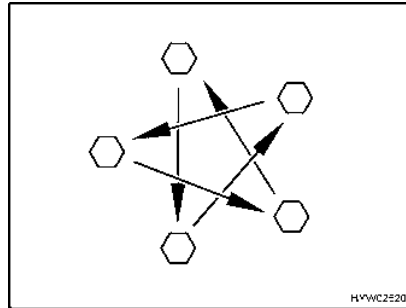

Fig. 102 Tighten the wheel nuts or wheel bolts cross-wise
- Check regularly that the wheel nuts or wheel bolts are firmly seated. Re-tighten the wheel nuts or wheel bolts of a changed wheel cross-wise (Fig. 102) after 50 km (30 miles).
- ▷ Tighten the wheel nuts or wheel bolts cross-wise (Fig. 102).